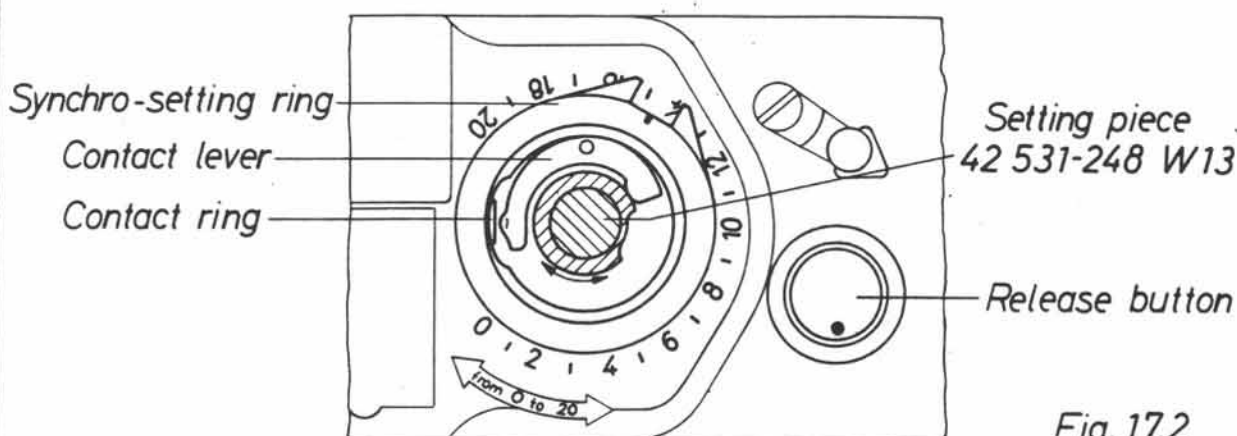

Fig. 17.2
- 1.15 Set lever to "L", tension the shutter of the Leica, and engage the release arm at the $\frac{1}{1000}$ second setting. Mount the setting piece 42 531-248 W13 on the release arm, and turn it without allowing the contact lever to enter the cut-out of the setting piece. At the same time also turn the synchro-setting ring from 0 to 20, and check that the contact lever and contact ring do not make contact anywhere (see fig. 17.2).